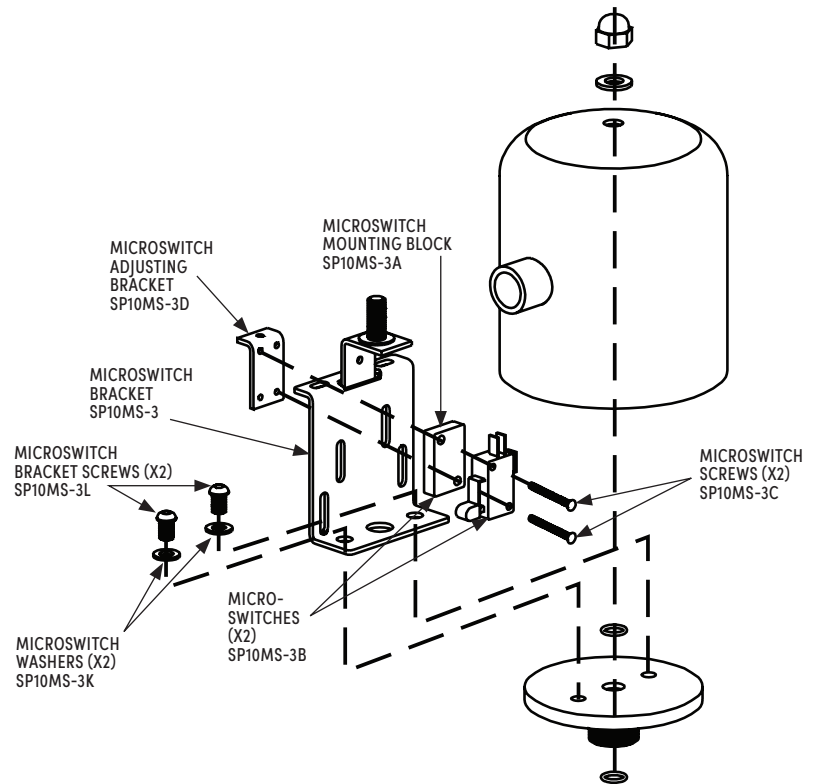

FIG. 9 - SP10MS/SP10PRX/SP20MS/SP20PRX ACTUATOR DIAGRAM
3. Prepare the microswitch bracket (see fig. 9) for installation by installing the microswitches and gathering the hardware: